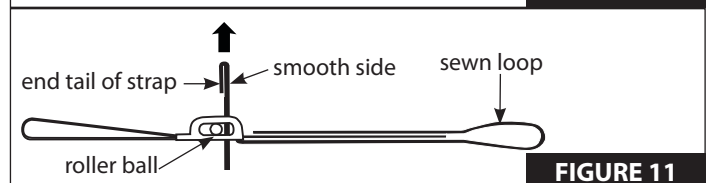

FIGURE 11
- Feed end tail of strap up through the bottom of the float buckle on the sewn loop side of the roller bar. **SEE FIGURE 11.**